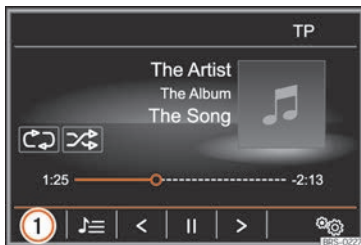

Fig. 211 MEDIA main menu.
- **OR:** From the *MEDIA* main menu, press the **>>> Fig. 211 1** function button and select the desired Media source.